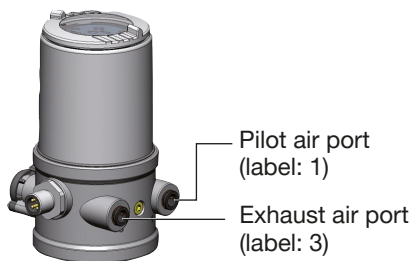

Fig. 8: Pneumatic connection
- Connect the control medium to the pilot air port (1) (3 – 7 bar; instrument air, free of oil, water and dust).
- Attach the exhaust airline or a silencer to the exhaust air port (3) (see “Fig. 8: Pneumatic connection”).